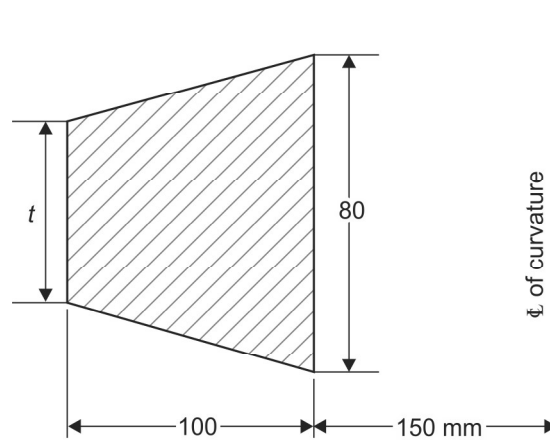

Fig. 1.42: Problem 37
37. Determine the value of ' t ' in the cross-section of a curved machine member shown in Fig. 1.42, so that the normal stresses due to bending at extreme fibers are numerically equal. Also determine the normal stresses so induced at extreme fibers due to bending moment of 10 kN-m.
- From Fig. 1.42, we have